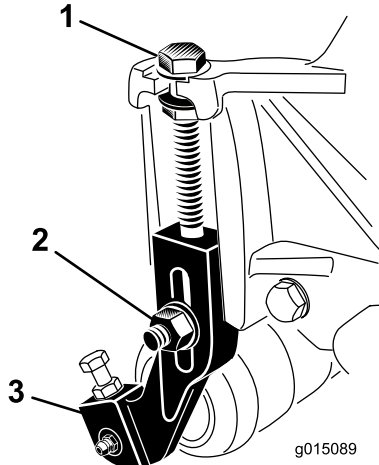

Figure 18
1. Loosen locknuts securing height-of-cut arms to cutting unit side plates (Figure 18).